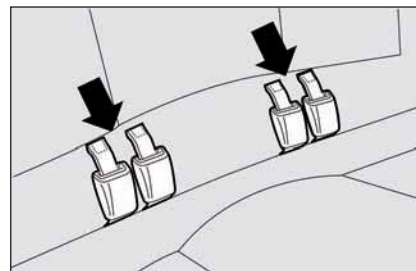

fig. 116
- fasten the buckles to the tabs **fig. 116** (shown by the arrows) on the backrest;